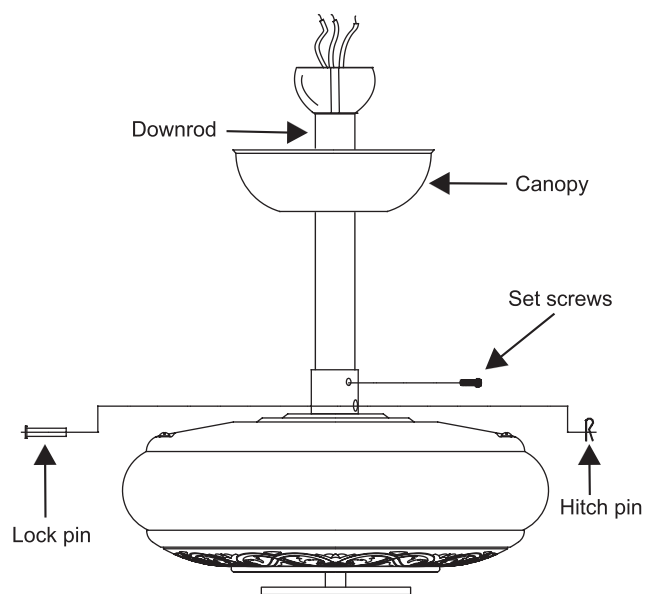
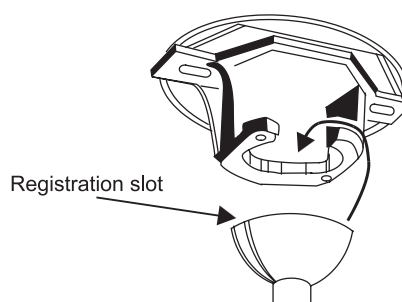

Figure 6
Figure 7
**Step 4.** Route wires exiting from the top of the fan motor through the canopy and then through the ball / downrod. (Fig. 6)
**Step 5.** Align the holes at the bottom of the downrod with the holes in the collar on top of the motor housing (Fig. 7). Carefully insert the hanger pin through the holes in the collar and downrod. Be careful not to jam the pin against the wiring inside the downrod. Insert the locking pin through the hole near the end of the hanger pin until it snaps into its locked position, as noted in the circle inset of Fig. 6.
**Step 6.** Tighten two set screws on top of the fan motor firmly. (Fig. 6)
**Step 7.** Place the downrod ball into the hanger bracket socket. (Fig. 7)